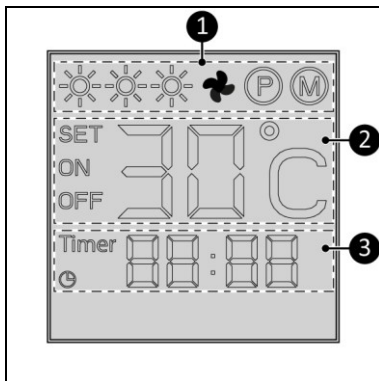

Figure 7
Status indication (Figure 7, pos. 1):
Temperature indication (Figure 7, pos. 2):
Time indication (Figure 7, pos. 3):